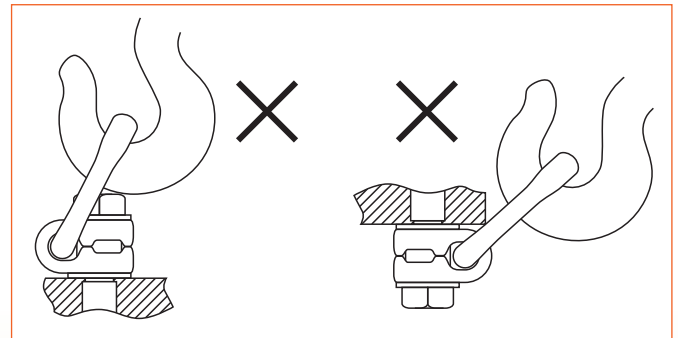

Fig. 2.
- Apply partial load and check proper rotation and alignment. There should be no interference between load (work piece) and hoist ring bail (Fig. 2.)